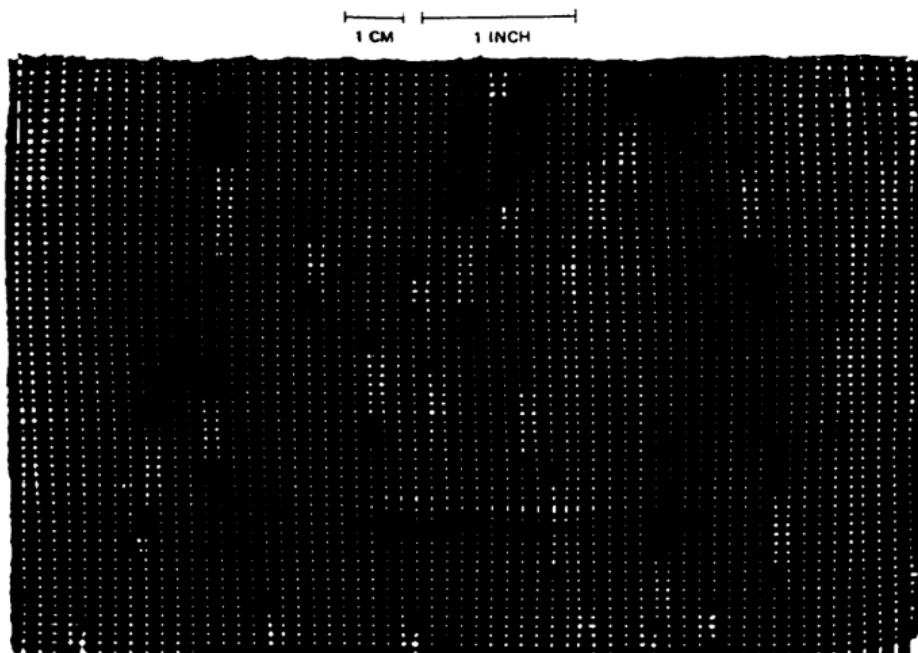

Figure 1-4: Woven Slit-Film Geotextile.
- **Slit-film/Ribbon:** Cost-effective for **separation** (See Figure 1-4).